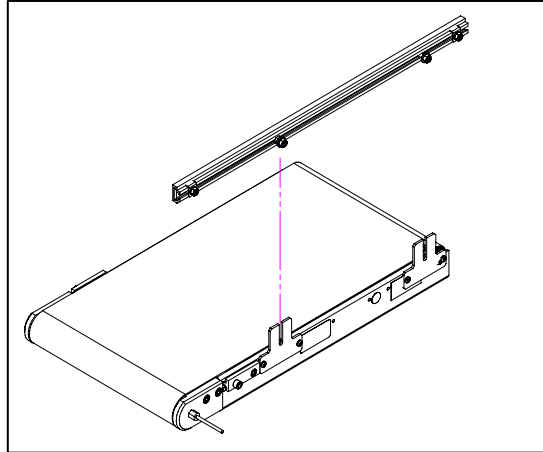

Figure 3
a. The Guiderail/Square Nut/Set Screw/Washer or Jam Nut assembly can now be set on the Guide Brackets attached to the conveyor (**Figure 3**).